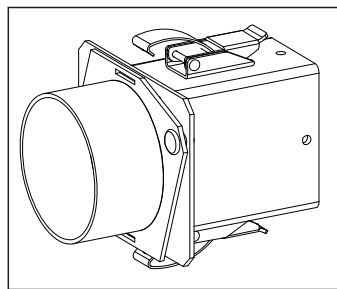

Figure 21.2
4. Attach the rear vent adapter to the exhaust blower housing with 4 screws. **Figure 21.2.**